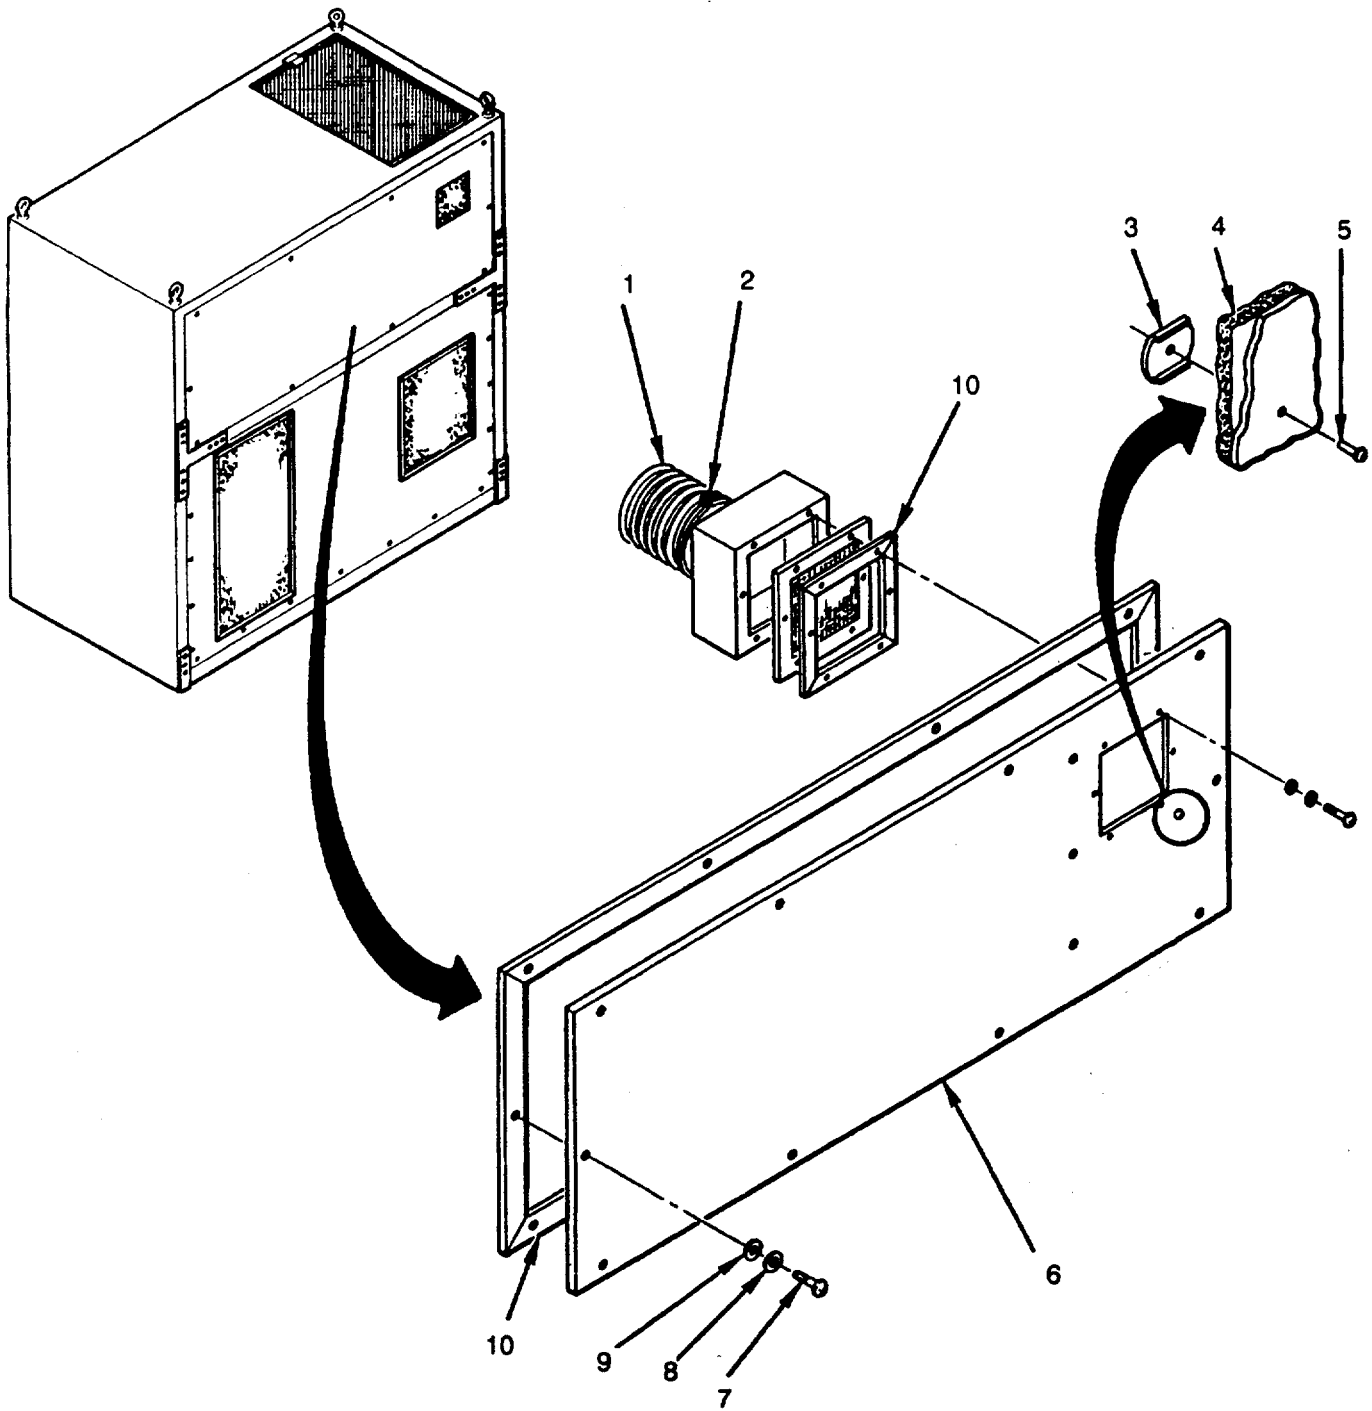

Figure 6-1. Rear Evaporator Panel
1. Remove 10 screws (7), flat washers (9), and lockwashers (8) (see Figure 6-1).
2. Lift panel (6) out slightly, loosen duct clamp (2) and remove hose (1).
3. Rotate panel (6) counterclockwise and set on ground.